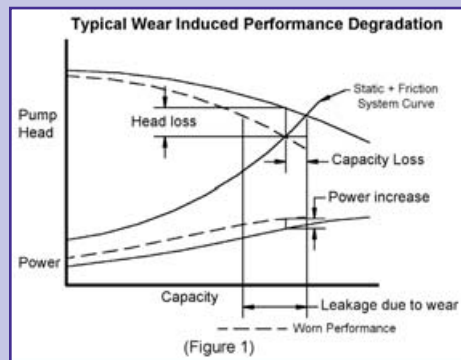

Figure 1.
The simplest way to determine pump wear is to constantly compare what the pump is doing versus what it should be doing. The use of only one Process Variable (PV) Transmitter does not give any information concerning wear, particularly if the goal is to keep that PV constant. As a pump wears the following performance changes occur (see Figure 1):